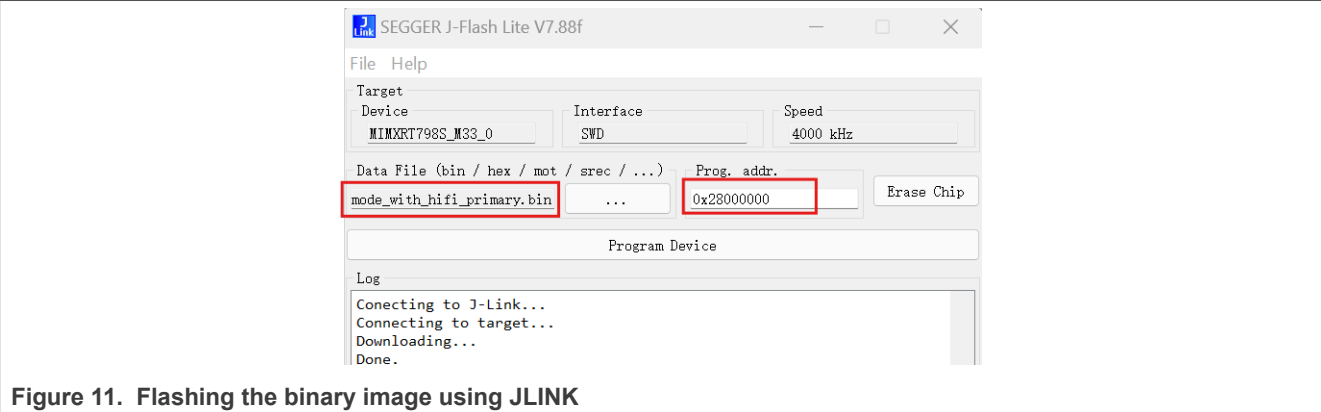

Figure 11. Flashing the binary image using JLINK
- Download the generated binary to the flash address 0x28000000. Figure 11 provides an example of using **JLINK** to download a binary to the address 0x28000000.